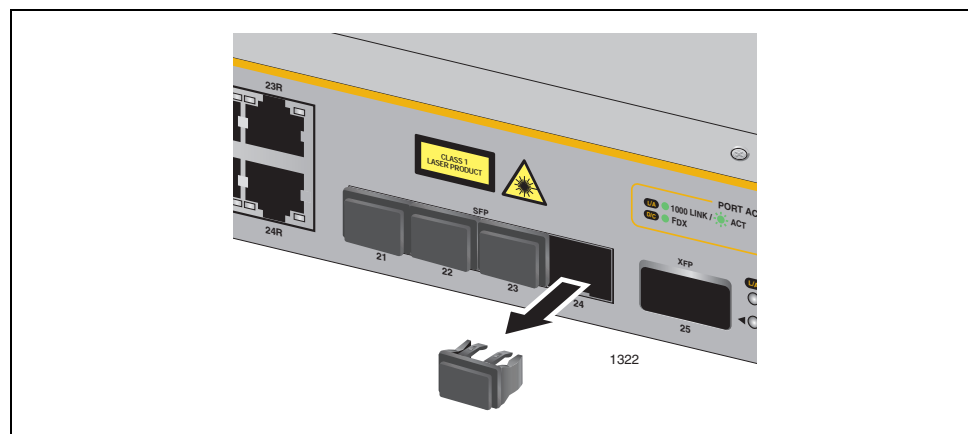

Figure 32. Removing a Dust Plug from an SFP Slot
1. Remove the dust plug from a transceiver slot on the switch, as shown in Figure 32.